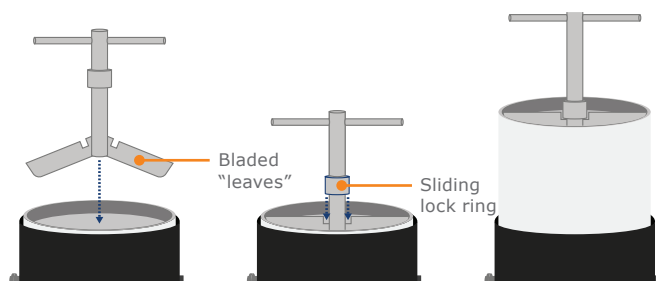

Figure 25. The cartridge extraction tool simplifies the removal of a used cartridge from the radial compression module.
9. Remove the cartridge using the cartridge extraction tool supplied with the system; see Figure 25.